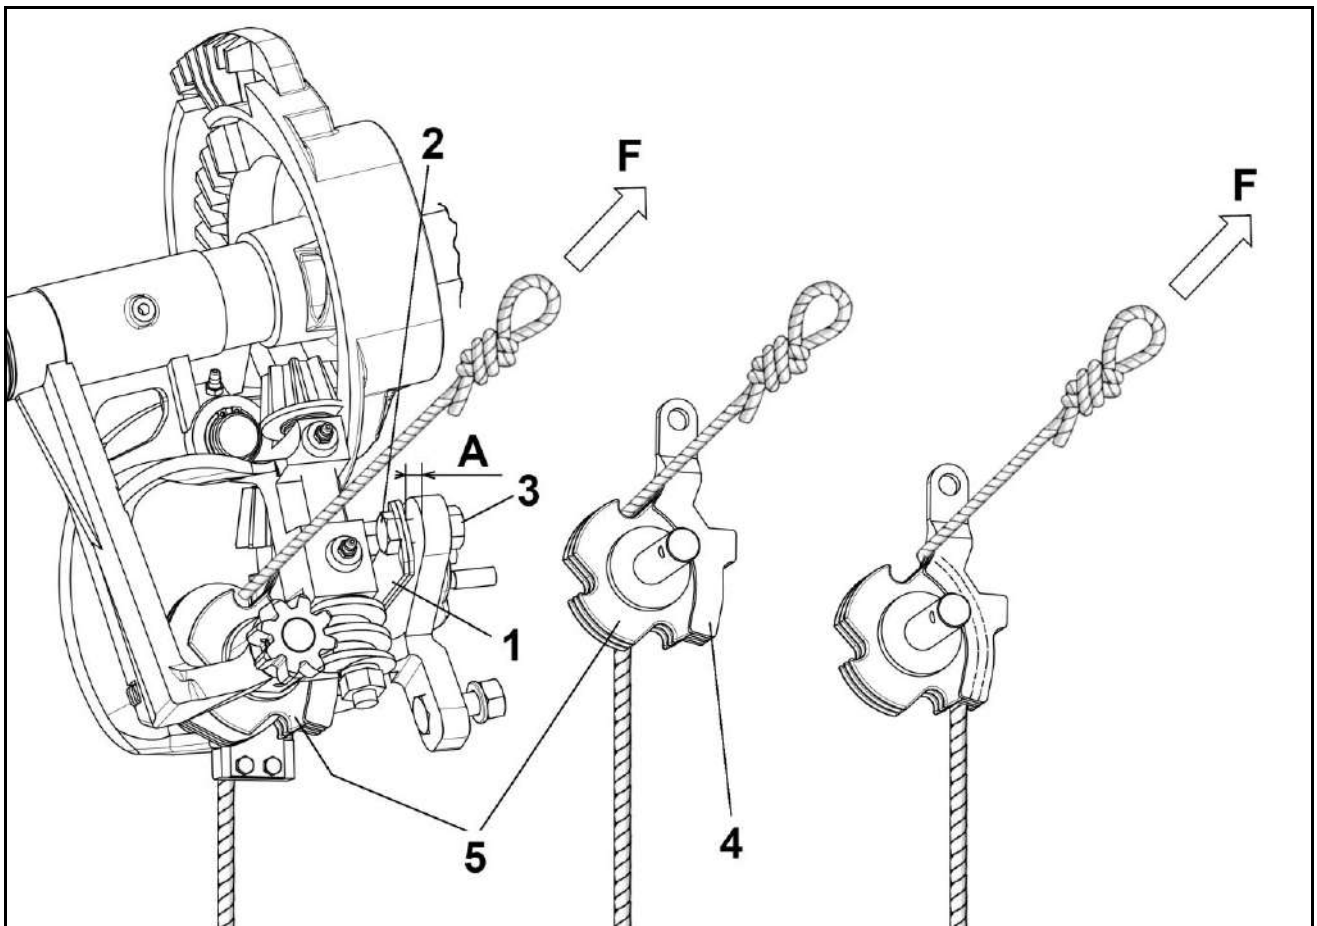
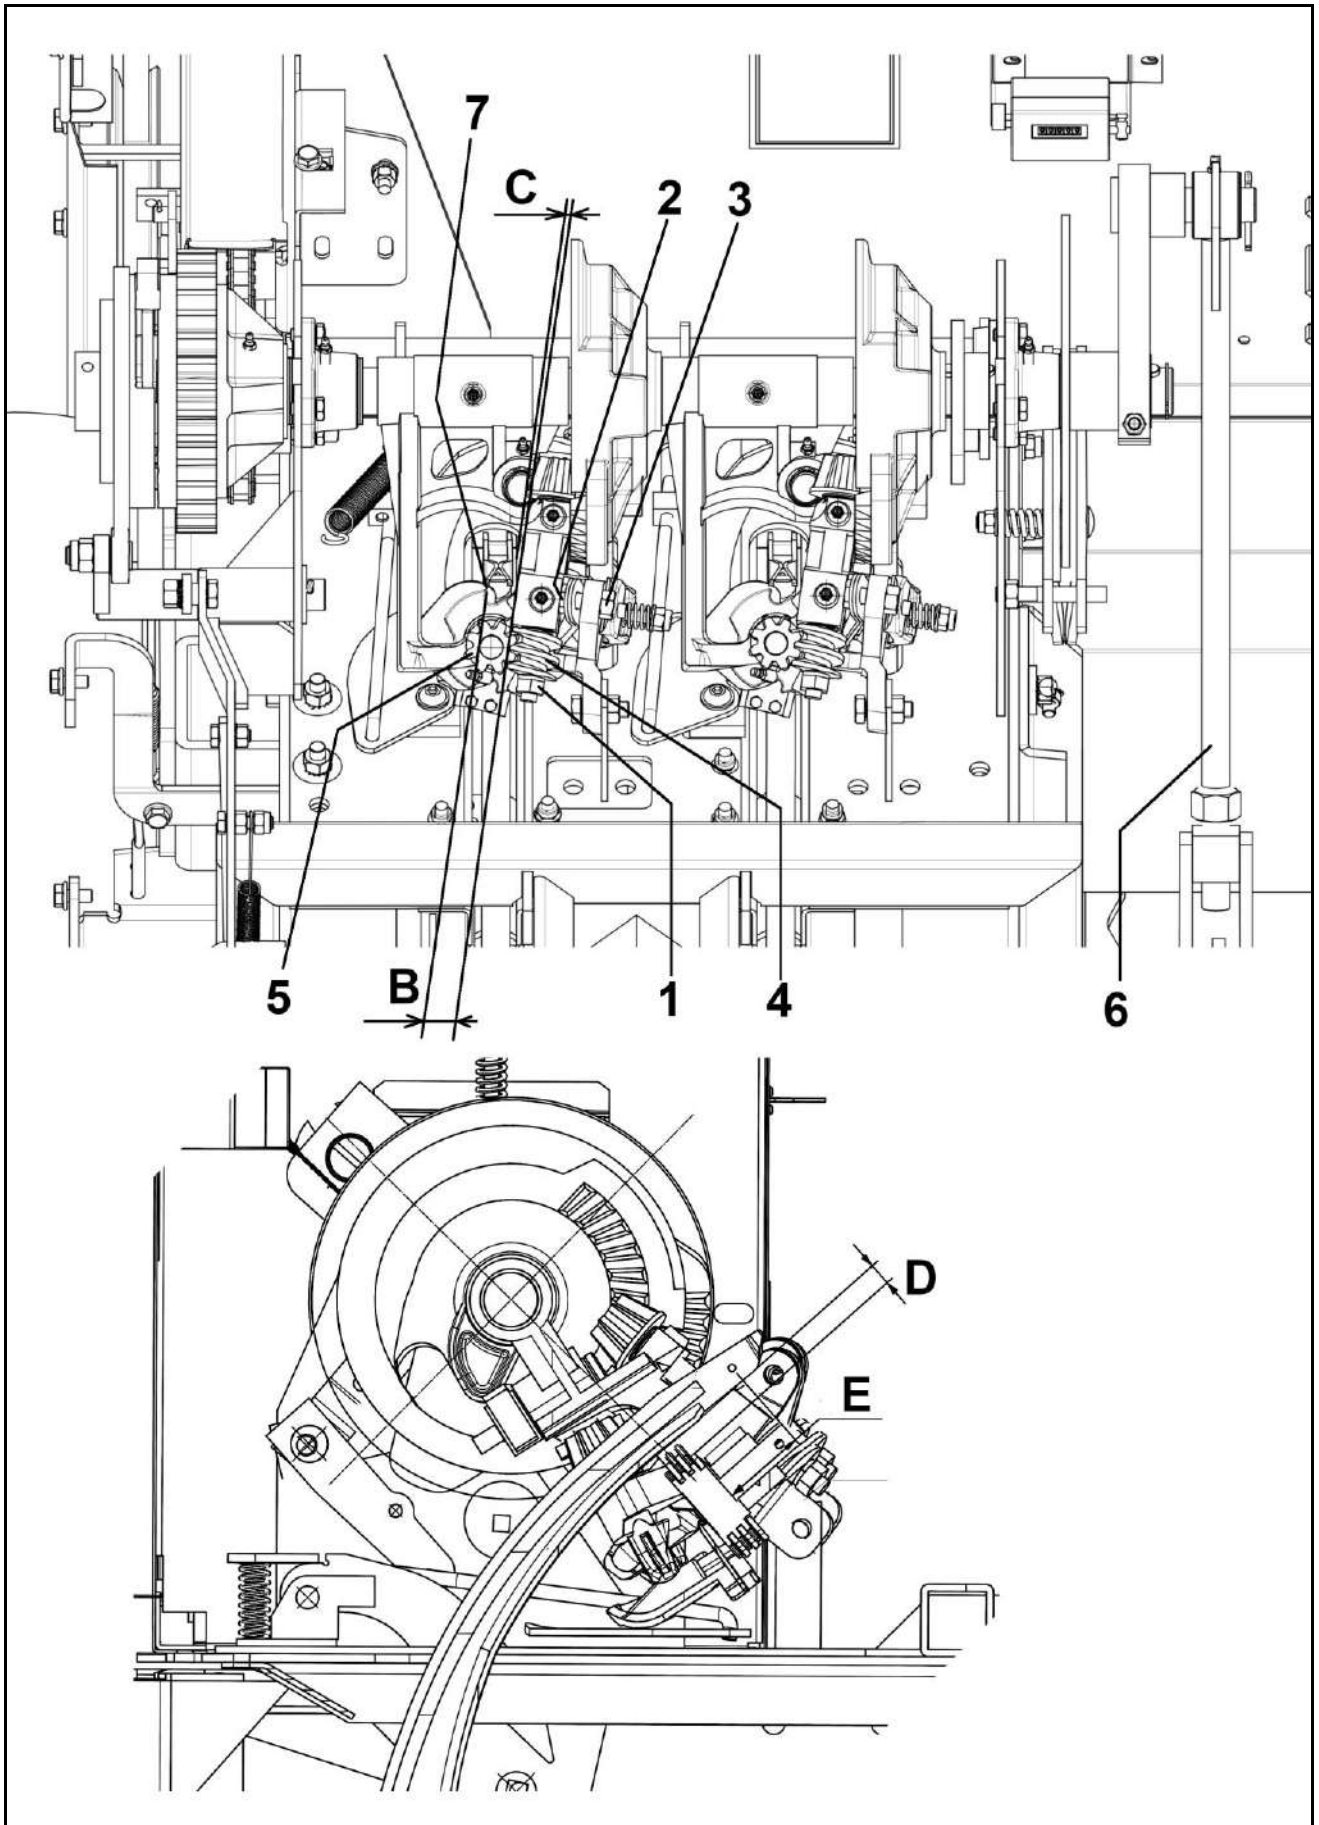

Fig. 7.12
Fig. 7.13
The pressure is adjusted by adjusting the flat spring 1. To do this, loosen the lock nut 3 and turn the screw 2 (Fig. 7.12).
To find the correct holder disc pressure, proceed as follows: the twine must be inserted and pressed in the holder disc. Adjust the spring 1 in Fig. 7.12 as described previously, so that the twine runs only when subjected to a force F of 40 to 60 kg. If necessary, adjust the flat spring 1 (Fig. 7.12) until the distance A is approximately 2–3 mm.
The position of the holder disc (ref. 5, Fig. 7.12) must be adjusted so that the twine carried by the needle is gripped in its notches (ref. 7, Fig. 7.13). The adjustment must be done so that the distance between the knotter frame and the left edge of the notch of the holder disc (see ref. B Fig. 7.13) is between 10 and 12 mm (7–9 mm in old knotters, approximately up to the year 2005).
Loosen the nut 1 (Fig. 7.13) by about 3 mm.
Give the bolt a sharp blow with a hammer in the direction of the pin, where it moves in order to release the worm gear 4 (Fig. 7.13), which is held in place by a conical connection.
Place the holder disc in the position described above and illustrated in Fig. 7.13.
Turn the worm gear 4 (Fig. 7.13) counterclockwise until it comes into contact with the gear 5 (Fig. 7.13), to eliminate any play in the adjustment.
Secure on its conical axis the gear 4 (Fig. 7.13) thus positioned by tightening the nut 1 (Fig. 7.13).
The distance between the side of the needle and the knotter frame must be 0.5 to 1 mm (ref. C, Fig. 7.13), i.e. the needle must almost touch the knotter frame (Fig. 7.13).
When the needle is at the upper end of the stroke, the distance between the lower side of the needle and the bottom of the notch of the holder disc must be 18–22 mm (ref. D, Fig. 7.13).
When the needles reach the upper end of the stroke (ref. E, Fig. 7.13), the distance between the holder disc and the center of the needle roller must be between a minimum of 80 mm and a maximum of 85 mm.
To adjust this height, use the adjustable fork of the needle holder arm (ref. 6, Fig. 7.13).